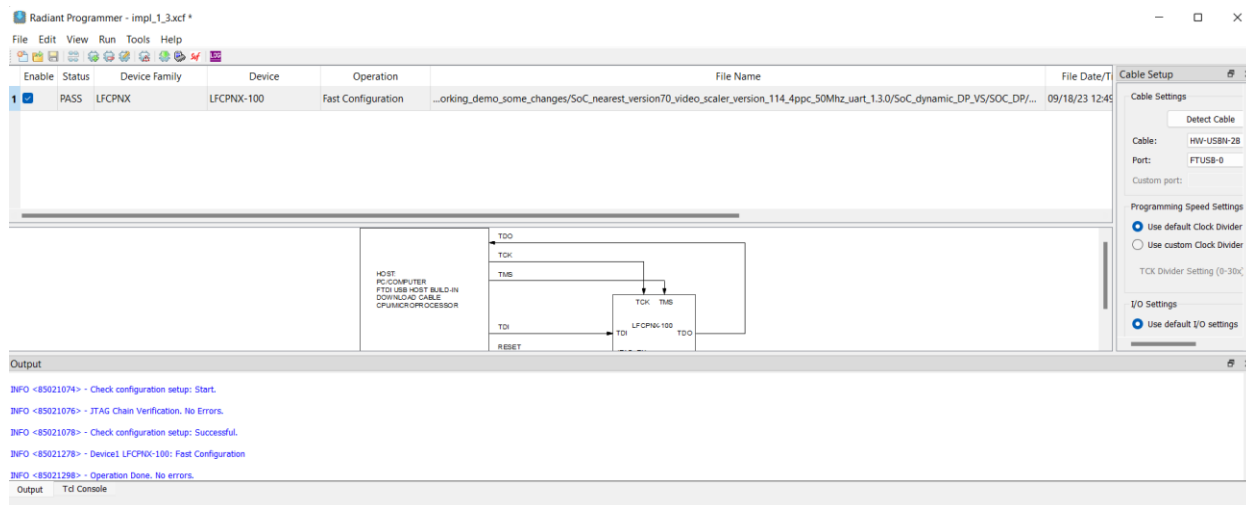

Figure 3.17. Radiant Programmer Window
- Select the device name as LFCPNX-100 and choose the bit file to be programmed from the implementation directory as shown in Figure 3.17.